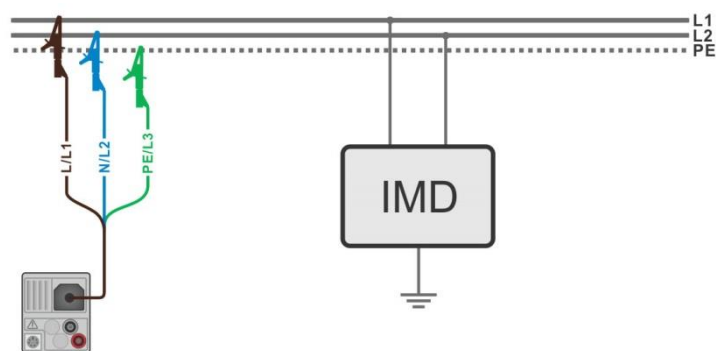

Figure 7.111: AUTO IT measurement
- Connect test leads to the object under test, see **Figure 7.111**.